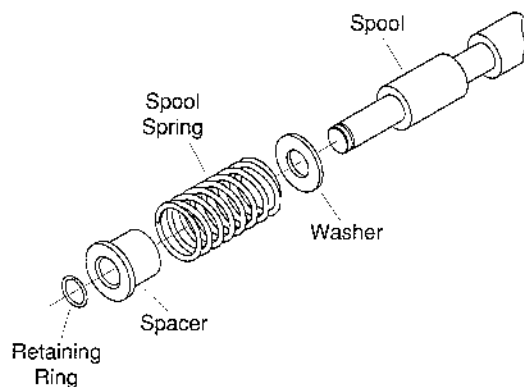

figure 1
6. Disassemble the spool assemblies only if the retaining ring, spacer, spool spring, or washer need to be replaced see figure 1.
2. Inspect all of the springs and replace as necessary. Replace spool springs as shown in figure 1.